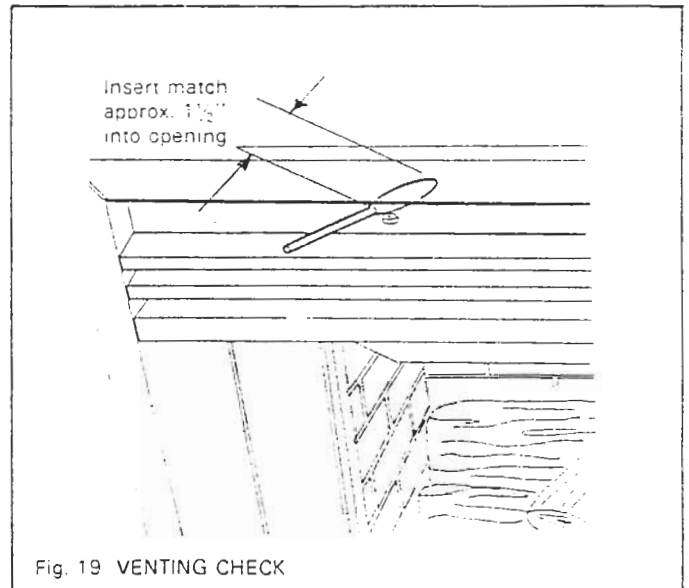

Fig. 19 VENTING CHECK
- 10.3 Leave the appliance on for 15 minutes then light a smoke match and insert it inside the top opening of the appliance. Insert the match approximately 1 1/2" into the opening (see fig. 19).